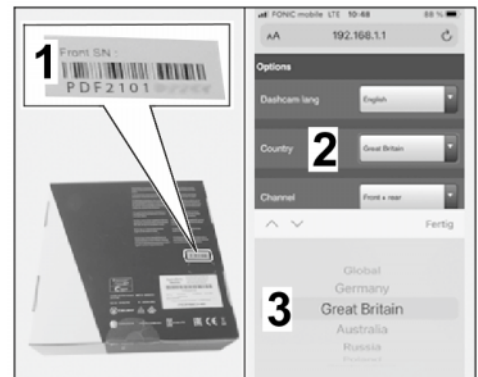

Figure 22
- 5.3.2 Select the country (⇒ Figure 22).